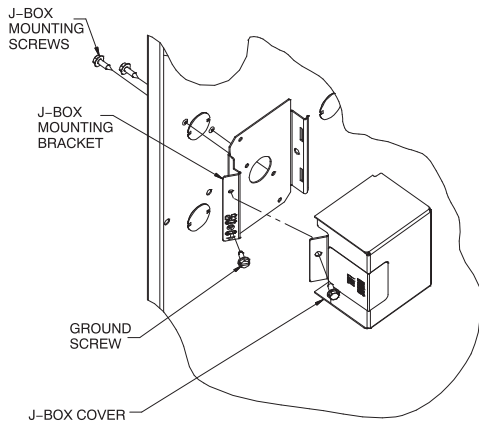

Fig. 36 – Installing J-Box (When Used)
The J-Box cover, mounting bracket and screws are shipped in the loose parts bag included with the furnace. See Fig. 36 for J-Box mounting locations.
1. Install J-Box mounting bracket to inside of furnace casing. See Fig. 36.
5. Connect field ground wire and factory ground wire to green ground screw on J-Box mounting bracket as shown in Fig. 36.
7. Attach furnace J-Box cover to mounting bracket with screws supplied in loose parts bag. Do not pinch wires between cover and bracket. See Fig. 36.
4. Connect field ground wire and factory ground wire to green ground screw on J-Box mounting bracket as shown in Fig. 36.